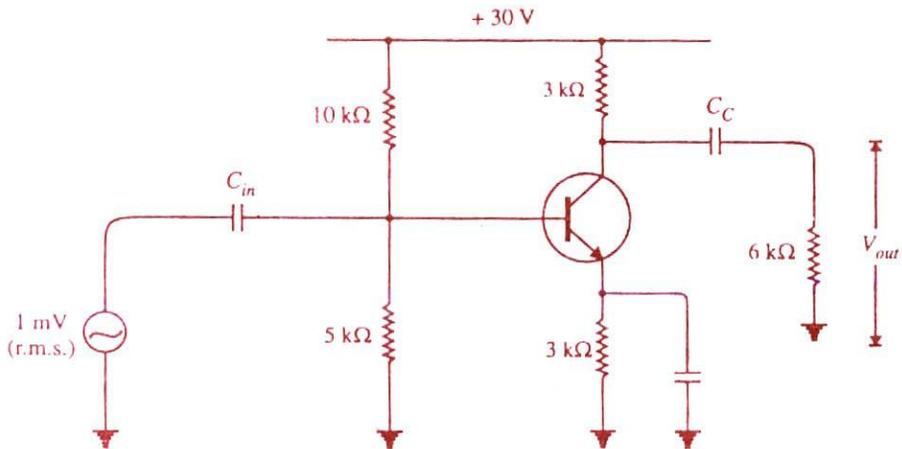

Fig. 12.20
**Example 12.9.** In Fig. 12.20, the transistor has  $\beta = 50$ . Find the output voltage if input resistance  $R_{in} = 0.5 \text{ k}\Omega$ .